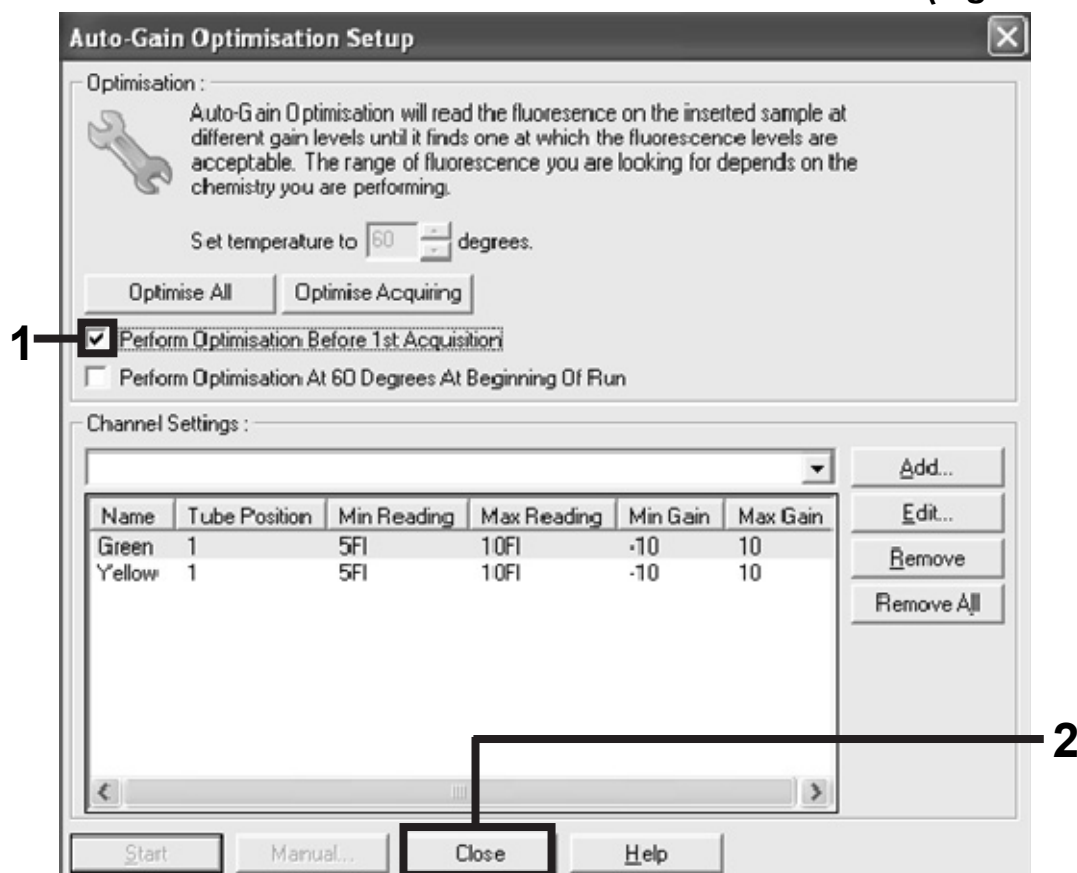

Figure 26. Selection of green and yellow channels.
15. Check the “Perform Optimisation before 1st Acquisition” box, and then click the “Close” button to return to the wizard (Figure 26).